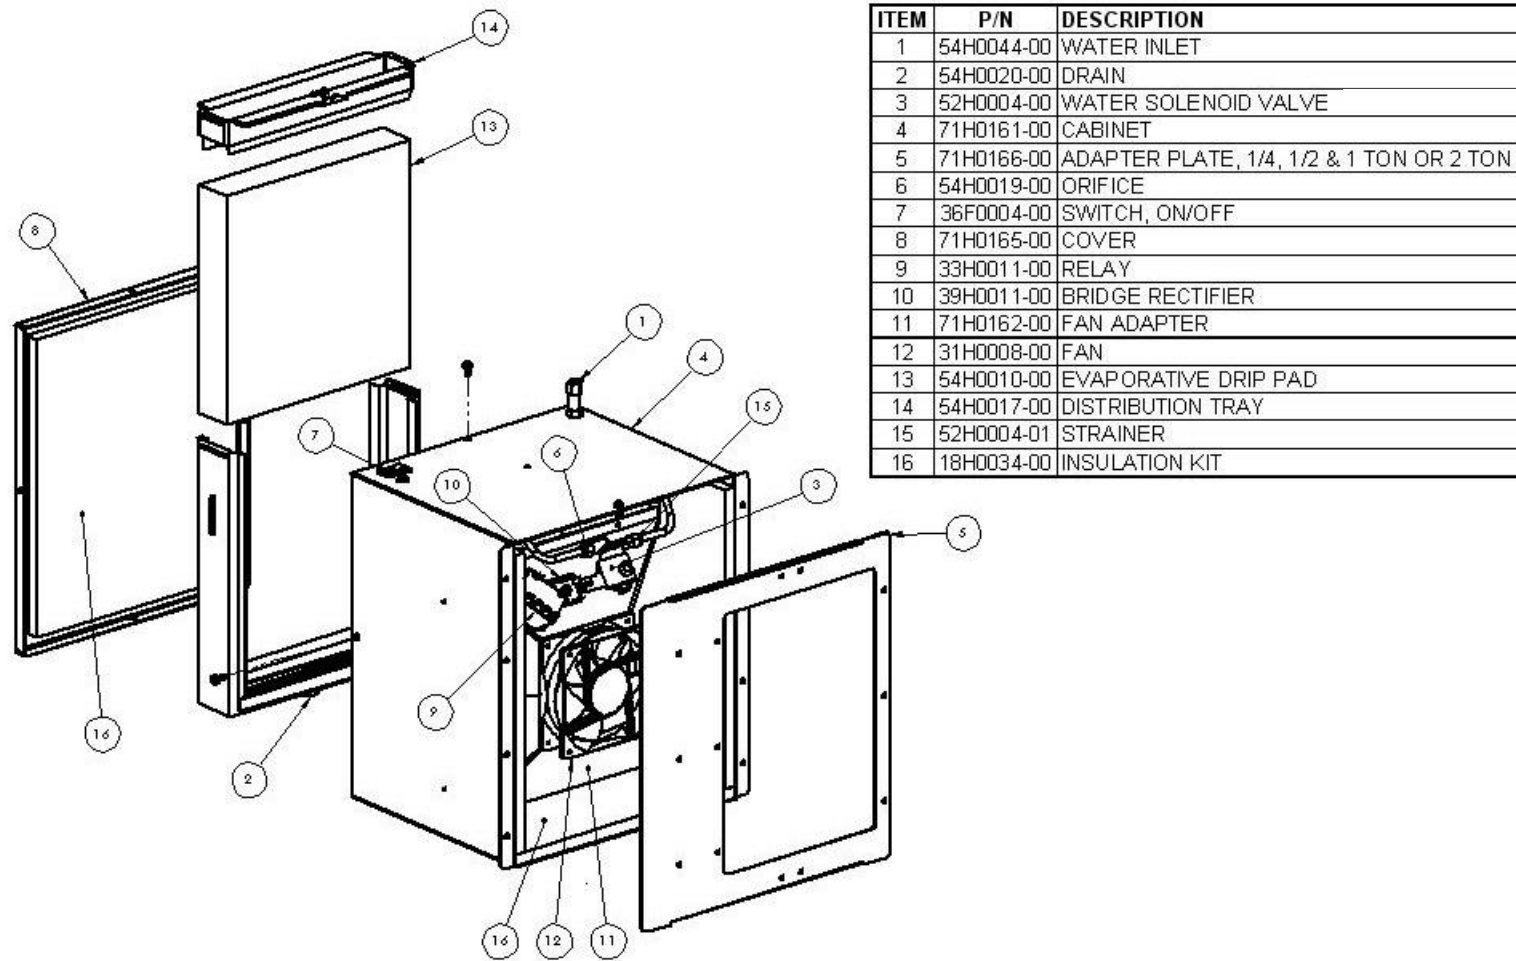

Figure 2.0
– refer to call-outs on drawing. See Figure 2.0
概述 - 参考。见图 2.0